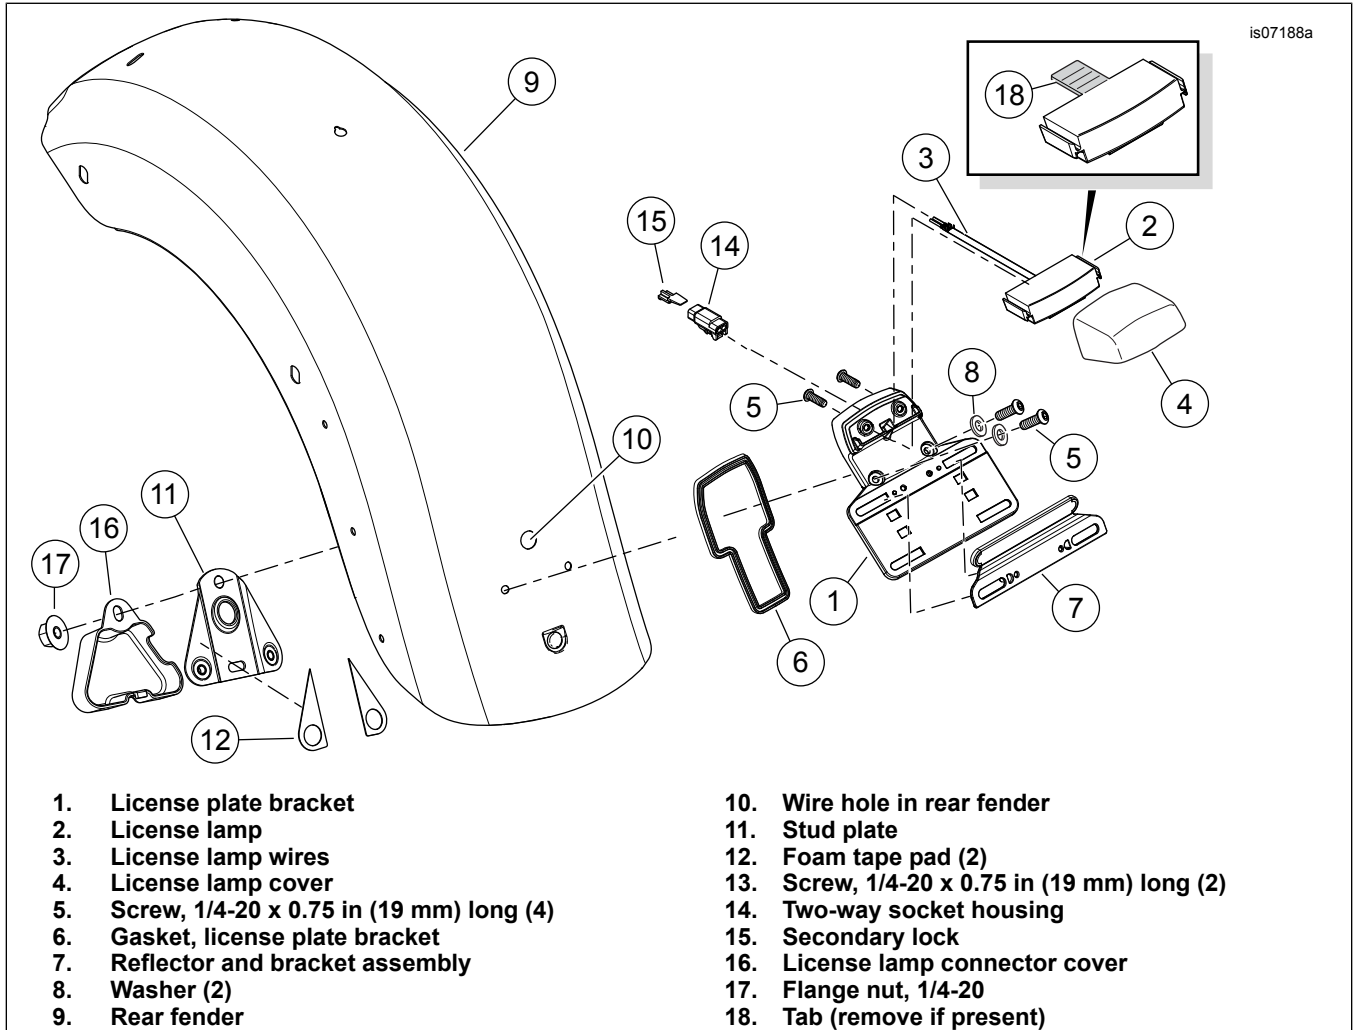

Figure 3. License-Plate Lamp and Bracket Installation
Some license lamps have a tab (see Figure 3 inset, Item 18) that prevents installation. Remove tab before proceeding.
1. See Figure 3. Assemble license lamp (2) and cover (4) to license plate bracket (1).
2. Tighten screws (5).